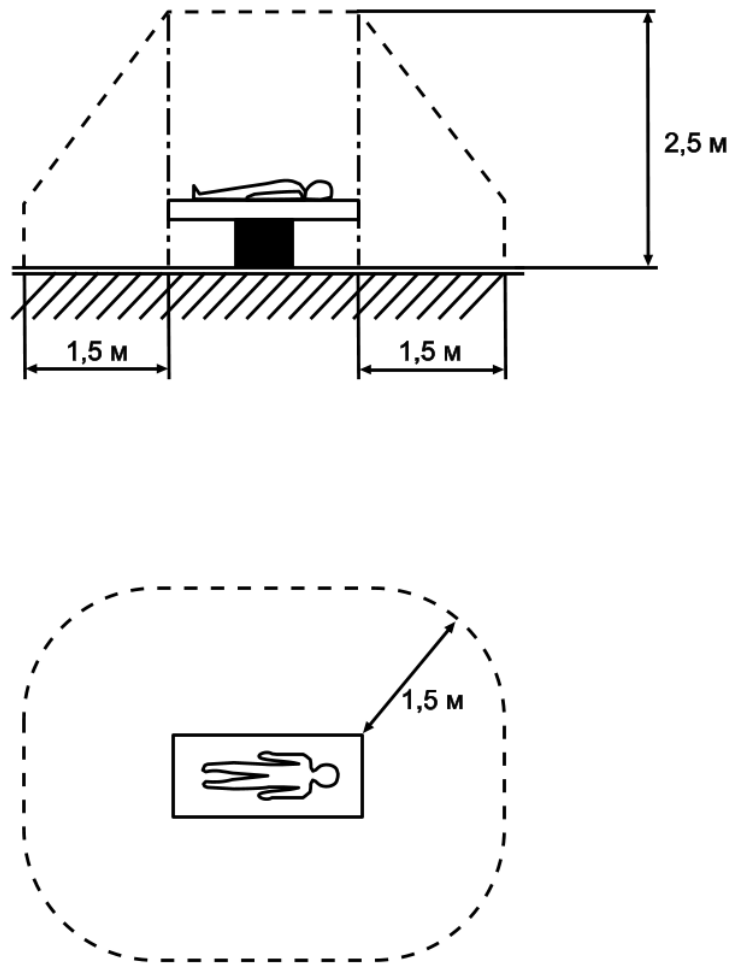

Figure 9. Example of patient environment.
3. The Amplifier operates within the patient environment (see Figure 9).